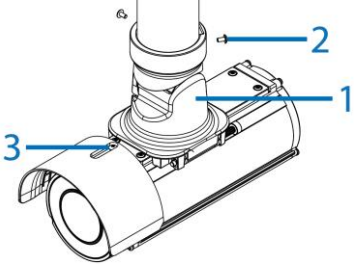

Figure 11
6. Place the mounting plate arm and camera into the pendant mount adaptor (1) (Figure 11) and securely attach the two M3x0.5P (L = 6mm) screws with the T10 security Torx wrench.
**Note:** When the camera is mounted inverted to a pendant 1 ½ " NTP pipe you must remove the sun shield hood by unscrewing the M3x0.5P (L = 8mm) screw with the T10 security Torx wrench (3) (Figure 11) and relocate the sun shield with screw as per the sun shield hood located in Figure 11.